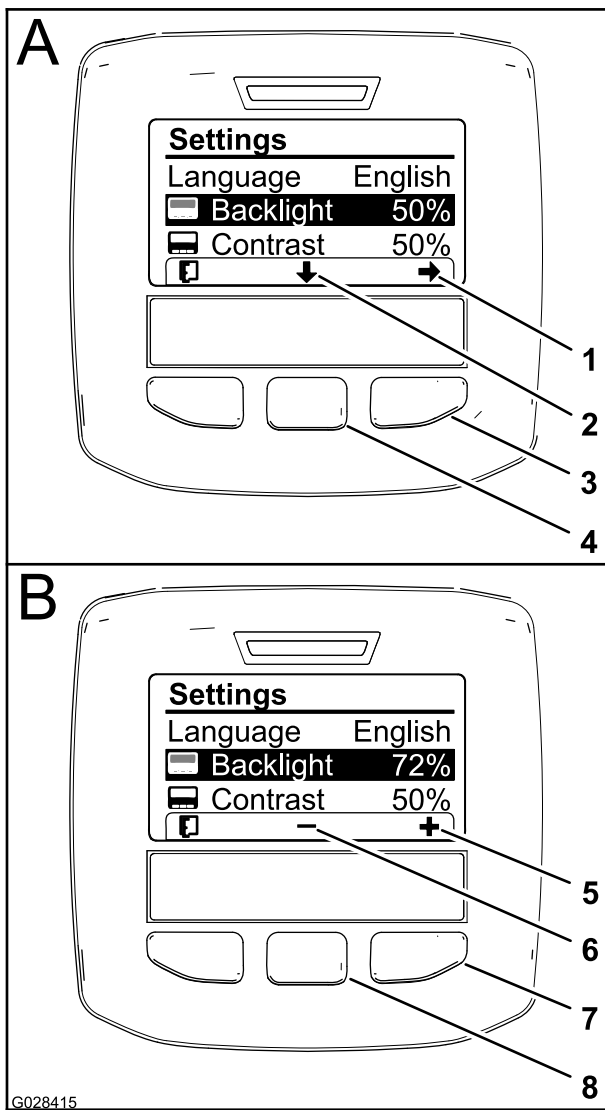

Figure 63
2. To adjust the backlight level of the display, press the center selection button (the button below the down arrow icon in the display) to move the selected option down to the Backlight setting (Figure 63).
- Press the right selection button to display the value adjustment context (Figure 63).
- Use the center selection button and right selection button to change the brightness level of the display (Figure 63).
- selection, exit the Backlight menu, and return to the Settings menu (Figure 63).
- To adjust the contrast level of the display, press the center selection button (the button below the down arrow icon in the display) to move the selected option down to the Contrast setting (Figure 63).
- Press the left selection button (the button below the list icon in the display) to save your selection, exit the Contrast menu, and return to the Settings menu (Figure 63).
- Press the left selection button to exit the Settings menu and return to the Main Menu (Figure 61 and Figure 63).
- Press the left selection button to return to the Home screen (Figure 63).